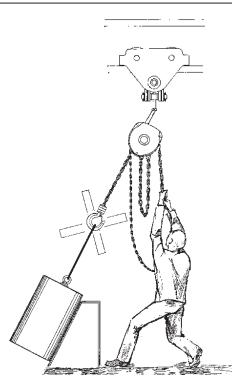

Fig. 5
The load must be hung in the centre, thinner portion of the load bar. Side pulling is forbidden as this can damage (bend) the side plates, link plates or load bar (see Fig. 5).
- Avoid side pull, i. e. side load on either load bar or side plates (fig.5).